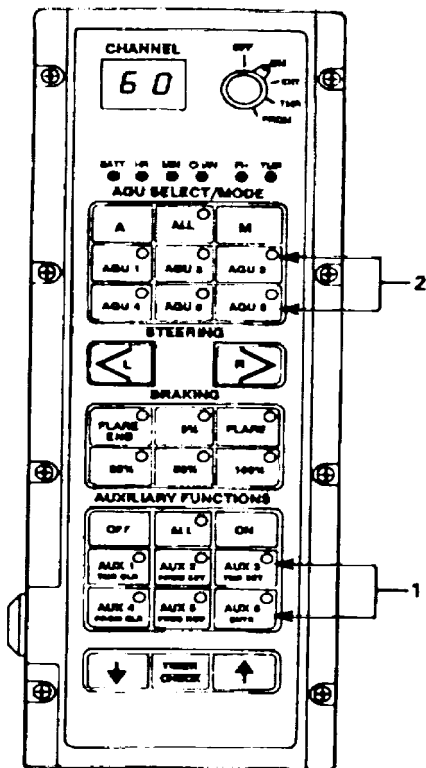

Figure 2-13. Auxiliary Function Use
- f. Auxiliary Function Use. (See Figure 2-13.)